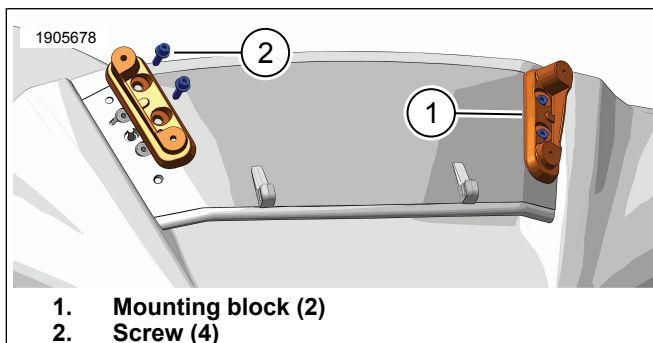

Figure 2. Remove Tall Mounting Blocks
1. Figure 2 Remove right and left mounting block screws (2). Retain screws.